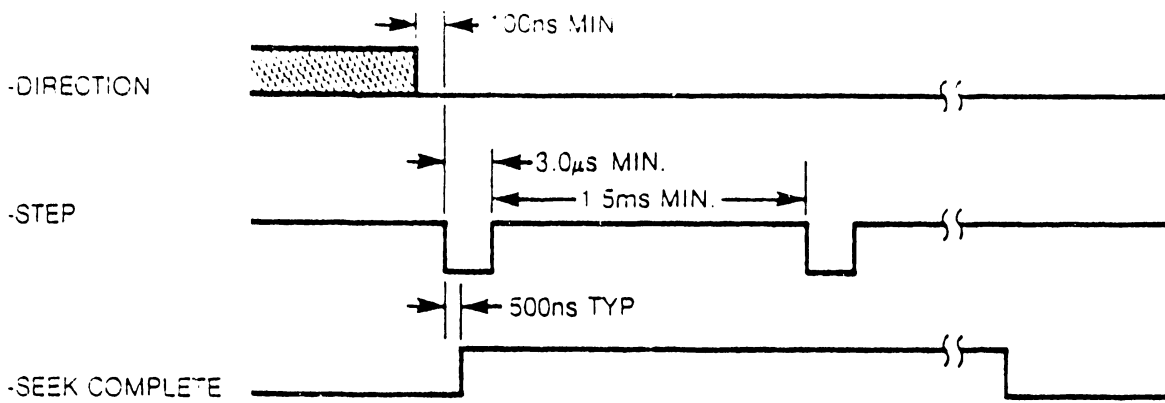

Figure 7 Normal Step Mode
- Normal Step Mode-In this mode, the read/write heads will move at the rate of the incoming step pulses. The minimum time between successive steps is 1.5ms , with a minimum pulse width of $3.0\mu\text{s}$. Refer to Figure 7.